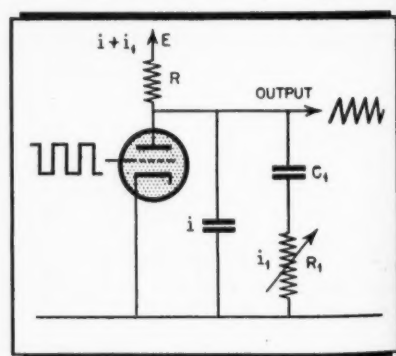

Figure 7
c. An auxiliary correcting circuit following the tube is shown in Fig. 7.
The integrating circuit and tube deliver an exponential wave form to the correcting network, which gives some slight improvement. The output voltage is given as $v = K + A_1 e^{-\lambda_1 t} + A_2 e^{-\lambda_2 t}$ which is similar to that obtained for the circuit of Fig. 7.